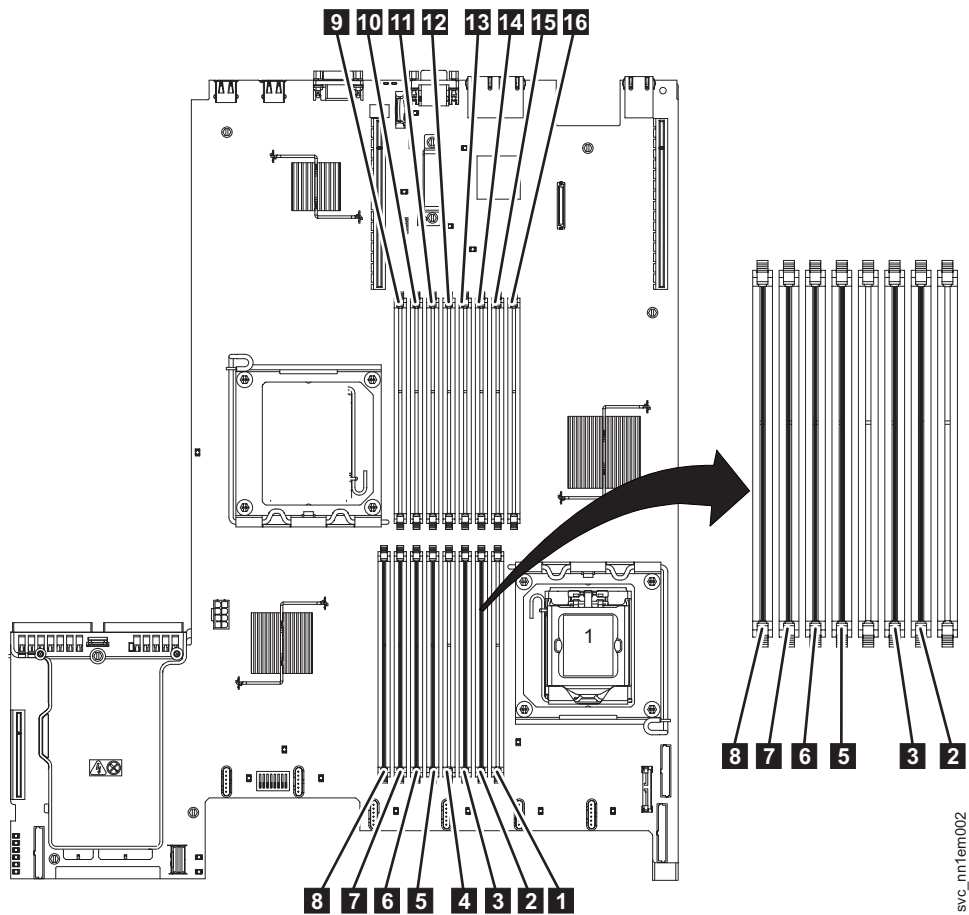

Figure 91. Locating the SAN Volume Controller 2145-CF8 memory modules
- SAN Volume Controller 2145-CF8: The SAN Volume Controller 2145-CF8 node uses six modules in DIMM slots **2**, **3**, **5**, **6**, **7**, and **8**, as shown in Figure 91 on page 103.